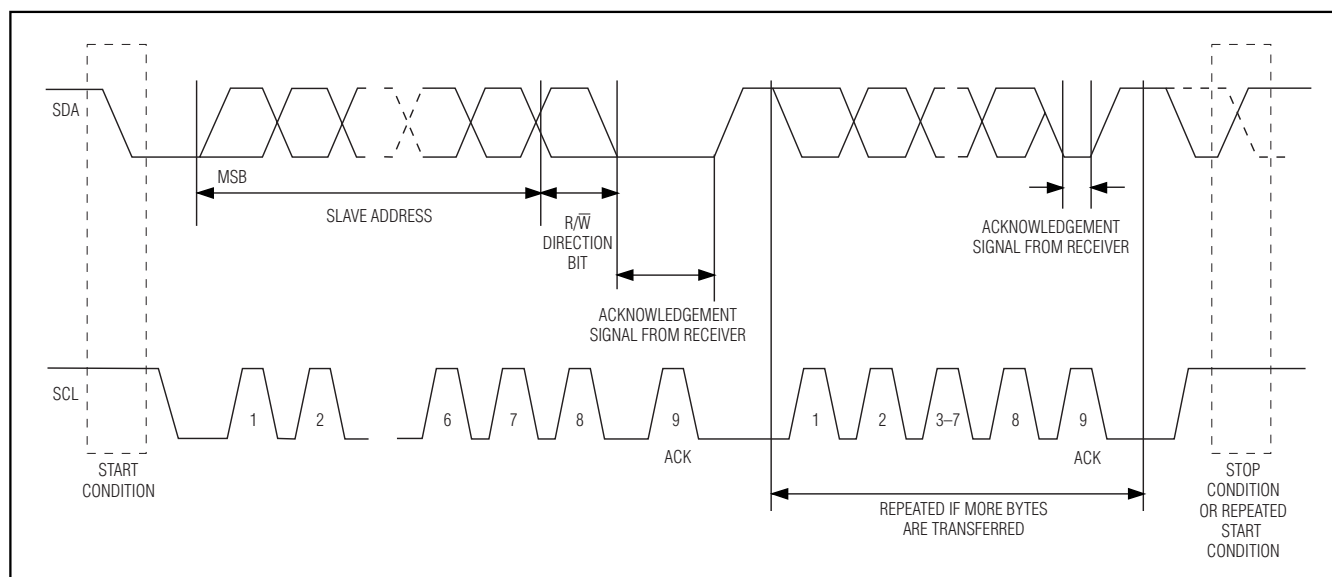

Figure 5. 2-Wire Data Transfer Protocol
**Clock and Data Transitions:** The SDA pin is normally pulled high with an external resistor or device. Data on the SDA pin may only change during SCL-low time periods. Data changes during SCL-high periods will indicate a start or stop condition depending on the conditions discussed below. See the timing diagrams in Figures 5 and 6 for further details.
**Start Condition:** A high-to-low transition of SDA with SCL high is a start condition, which must precede any other command. See the timing diagrams in Figures 5 and 6 for further details.
**Stop Condition:** A low-to-high transition of SDA with SCL high is a stop condition. After a read or write sequence, the stop command places the DS1858 into a low-power mode. See the timing diagrams in Figures 5 and 6 for further details.
slaves. The bus must be controlled by a master device that generates the serial clock (SCL), controls the bus access, and generates the start and stop conditions. The DS1858 operates as a slave on the 2-wire bus. Connections to the bus are made through the open-drain I/O lines SDA and SCL. The following I/O terminals control the 2-wire serial port: SDA, SCL. Timing diagrams for the 2-wire serial port can be found in Figures 5 and 6. Timing information for the 2-wire serial port is provided in the *AC Electrical Characteristics* table for 2-wire serial communications.
**Data valid:** The state of the data line represents valid data when, after a start condition, the data line is stable for the duration of the high period of the clock signal. The data on the line can be changed during the low period of the clock signal. There is one clock pulse per bit of data. Figures 5 and 6 detail how data transfer is accomplished on the 2-wire bus. Depending upon the state of the R/W bit, two types of data transfer are possible.